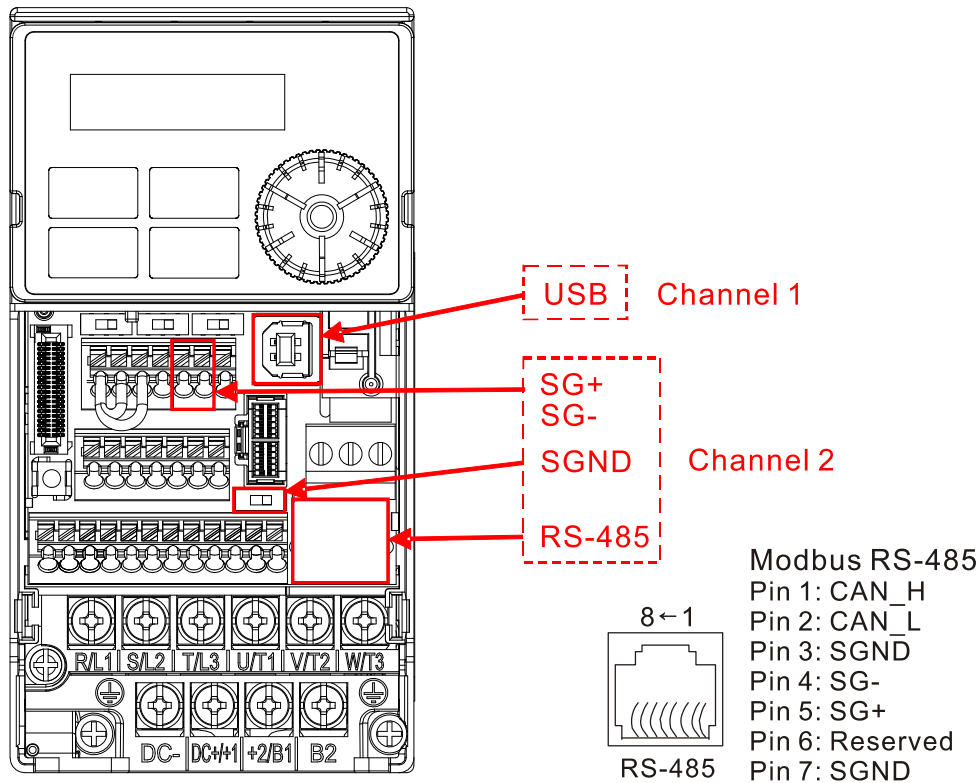

Figure 17-1
1. The MH300-L provides two communication serial ports that you can use to download programs to the PLC (see Figure 17-1 below).